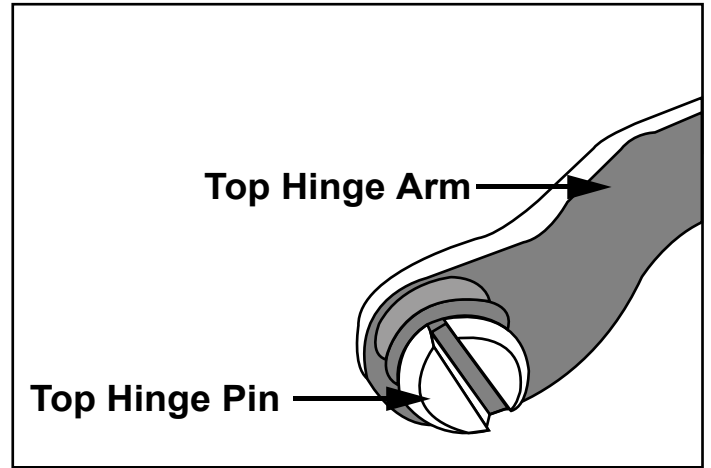

Fig.2
3. Unscrew the Hinge Pin securing the top of the Fridge door using a suitable flat bladed screwdriver. *Fig. 2*